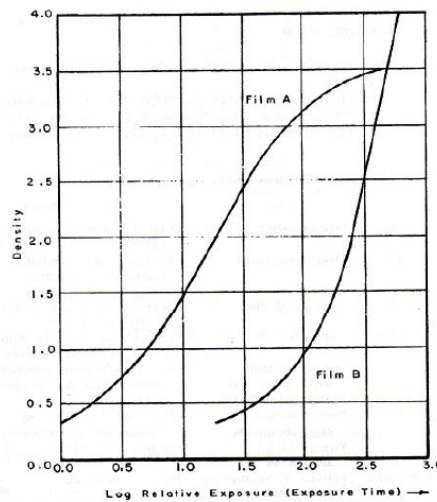

Figure 2: X-ray film density with respect to exposure for 2 films
- (i) Solve the average transmittance for Film A and B given in Figure 2? Given the initial intensity of the X-ray was 20 keV, what is the transmitted intensity at that average transmittance at Film A?